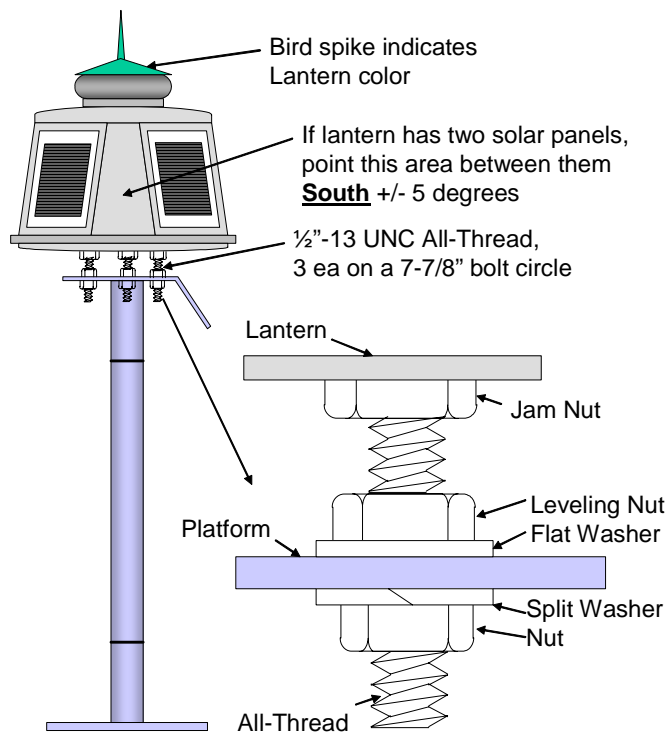

Figure 3-8
- d. On structures, Insert three 6" lengths of stainless steel $\frac{1}{2}$ "-13 UNC All-Thread in the base of the lantern as far as they will go (about 2"). Thread three $\frac{1}{2}$ " stainless steel nuts and tighten against the base of the lantern. These act as jam nuts and prevent the All-Thread from loosening in the lantern. Thread three stainless steel $\frac{1}{2}$ " nuts about half-way up the All-Thread. Place three stainless steel flat washers on the platform, then install the lantern on the platform. See Figure 3-8.